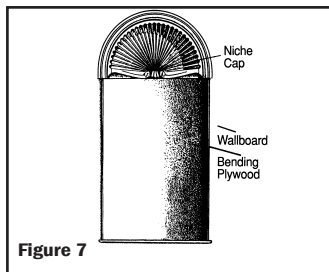

Figure 7
- Screw or nail Niche Cap into studs and braces. (figure 7)